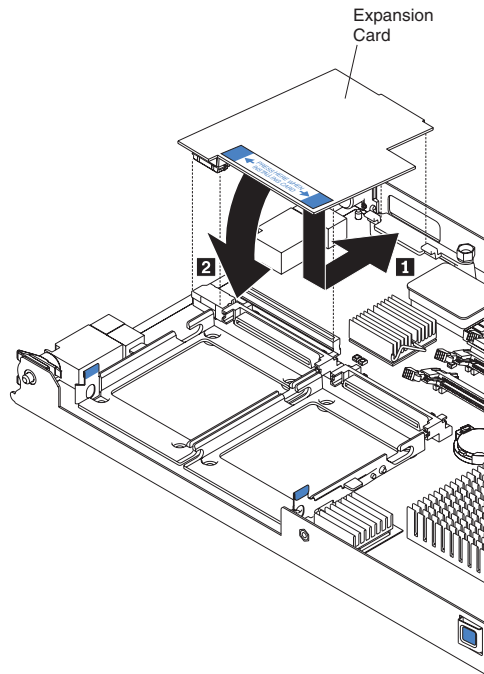

Figure 25. Installing a small-form-factor I/O card in the blade server
- a. Orient the expansion card (see **1**, Figure 25).
- b. Slide the notch in the narrow end of the card into the raised hook on the tray; then, gently pivot the card into the expansion card connectors (see **2**, Figure 25).